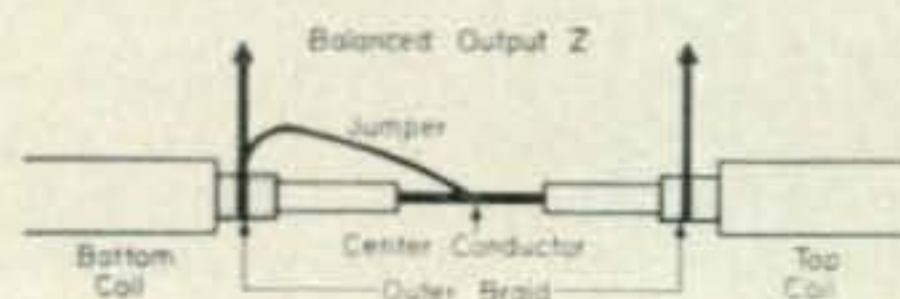
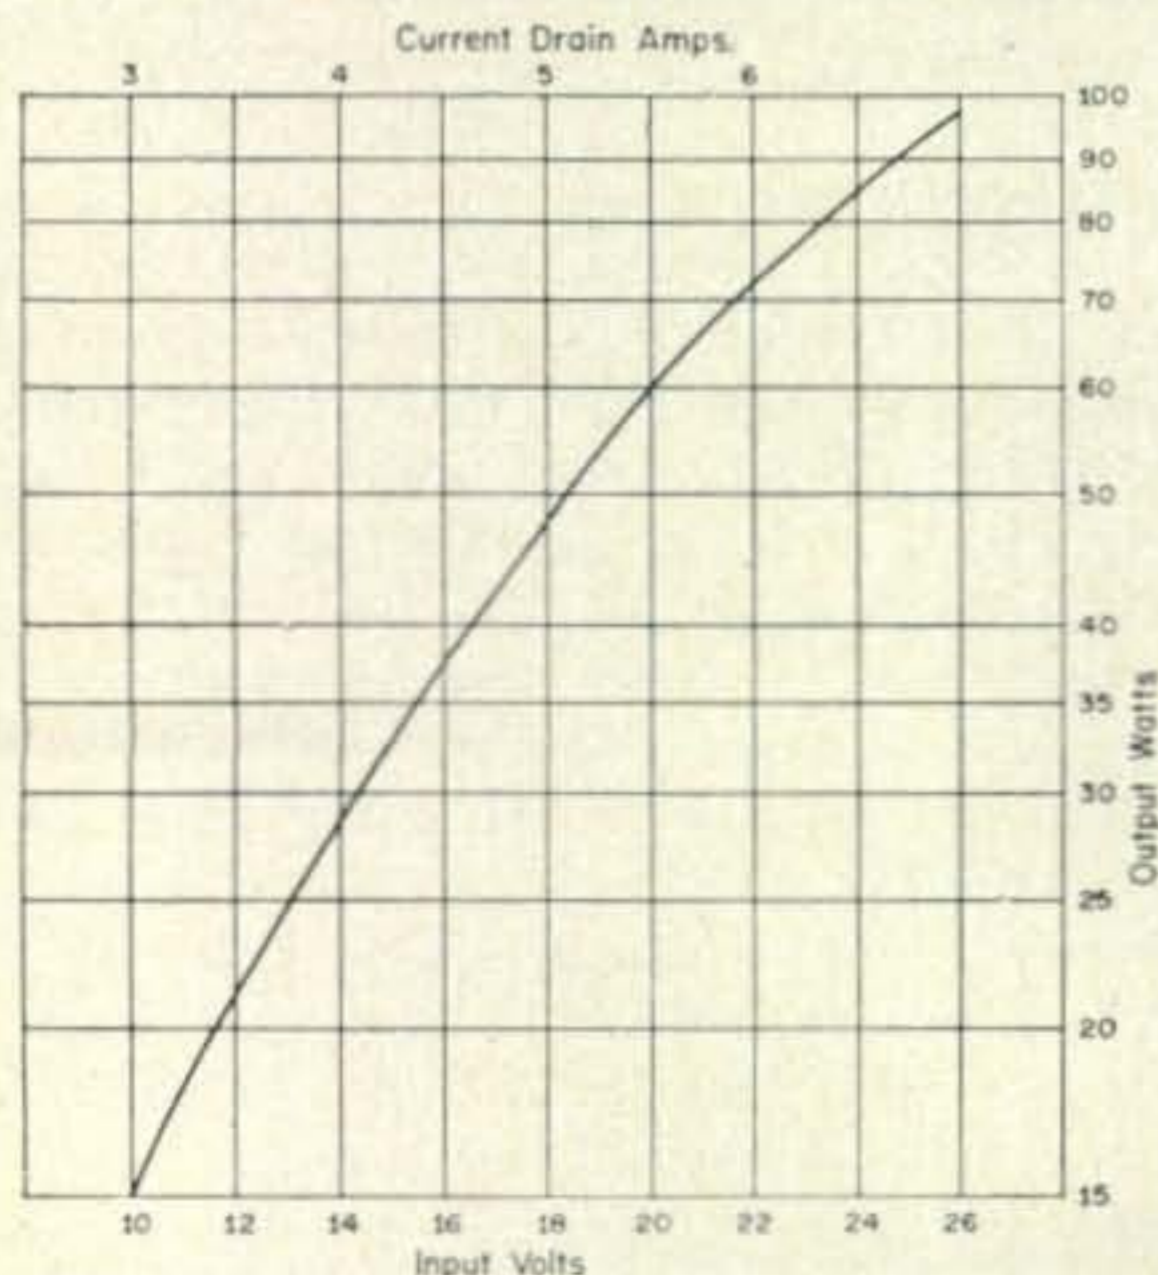

Fig. 5—A sketch of the center junction of the balun coil.
Fig. 3—Power output versus supply voltage and current drain for a 5K load impedance.
A version of the broad-band coaxial balun is shown in fig. 3 wherein a 1:1 transformation ratio (unity) may be realized. The balun is pictured as having three windings (or two windings, with one winding tapped at the center to obtain a half-voltage point) as shown in the audio inductor analogy.
Fig. 3—The 1 to 1 balun coil has three windings (A) or may be visualized as an audio inductor having three equal coils as in (B). Voltage across each coil is equal and proper polarization of the windings provides output voltage balanced to ground. An equivalent r.f. transformer requires three windings, two of which may be made of a length of coaxial cable. The third winding may be a single section of wire, but is often made of the outer conductor of a coaxial line in order to preserve symmetry as shown in (C). In this case, the outer and inner conductor may be shorted together.
A section of coaxial cable 16'6" long is to be wrapped into a coil whose inside diameter is 6¾ inches. This length of line will permit 9 turns to be made, with an inch or two left at each end of the coil for connections. The physical midpoint of the length is found and at this point the outer plastic cover and the outer, flexible shield of the line are broken. The plastic cover is trimmed back for an inch on each side of the break and the copper outer braid is trimmed back and cut about one-half inch each side of the center point to allow the connections shown in fig. 5 to be made. The inner conductor is *not* broken. (To prevent ambiguity, the "shorted" section of line is termed the "bottom" and the unshorted section is termed the "top," as shown in fig. 3.) Wire leads are now soldered to the outer shield at both ends of the "top" section. The shield of the "bottom" section is soldered to the inner conductor at both ends of the line. When this is completed, mark the free end of the "bottom" winding so that it is readily identifiable and securely solder the center joints of the line. Cover this joint with waterproof, vinyl tape, allowing the connecting leads to extend from the taped joint.
also operated in Class B for maximum efficiency. A slight forward bias is applied to the output transistors to reduce crossover distortion. The idling current should be about 300-800 ma depending on power output desired and supply voltage. The relationship between the power output and the input supply voltage is plotted in fig. 3.
Fig. 5—Simple power supply for the modulator Transformer  $T_1$  should provide a few volts more than needed according to fig. 3. The diodes should be rated at 5 amps each with a 50 volt p.i.v.
The first step is to set the output clipping level, done by changing the power supply voltage. A good approximation can be obtained from fig. 3. The power transformer should be chosen to provide a few more volts than anticipated and the supply voltage can then be adjusted with a series resistor. A typical power supply is shown in fig. 5. Don't worry about poor regulation; the zener ( $Z_1$ ) will take care of the preamp and